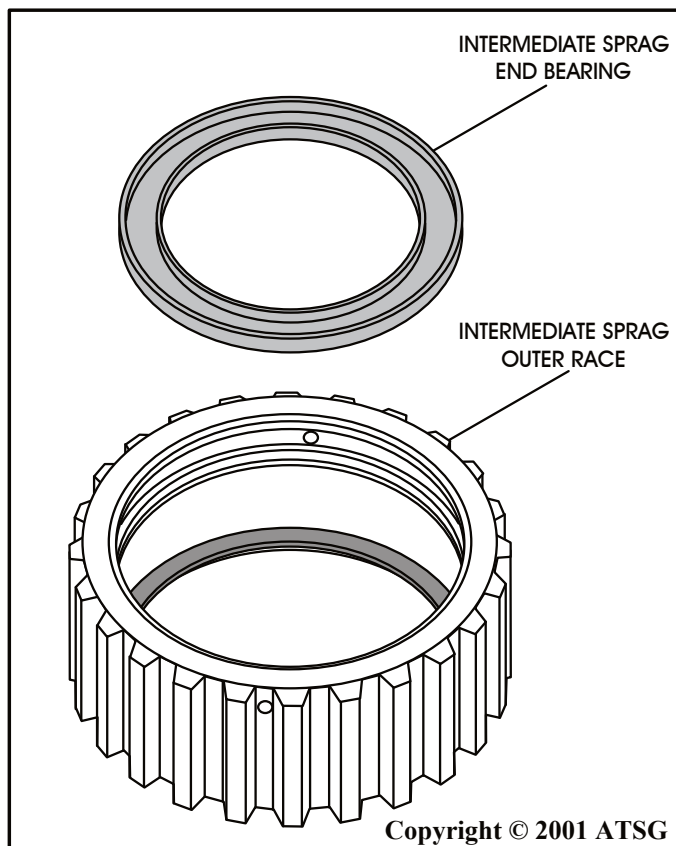

Figure 105
6. Install one sprag end bearing on top of the previously installed snap ring, with grooved side facing up, as shown in Figure 105.